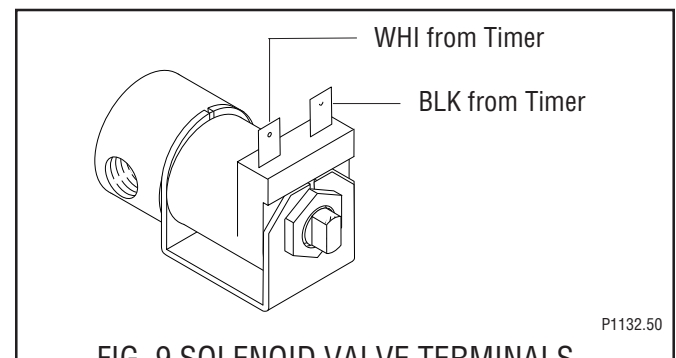

FIG. 9 SOLENOID VALVE TERMINALS
9. Refer to Fig. 9 when reconnecting the wires.